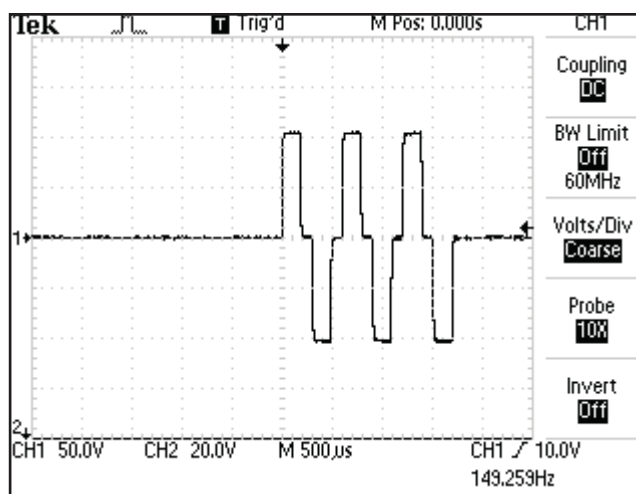

FIGURE 4.10
I. VMS™ Burst- Figure 4.10 (Vectra Genisys)
- Output Intensity.....0-200 mA (CC)